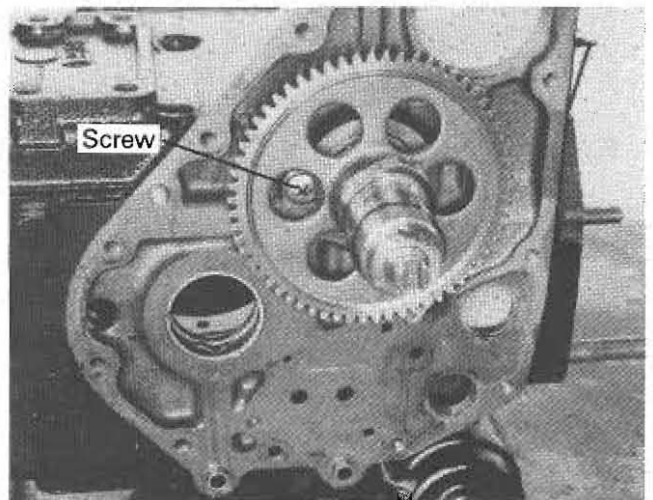

Fig. 2-7 Camshaft Retainer Screw
26. Remove camshaft retainer screw (Fig. 2-7). Remove the camshaft.